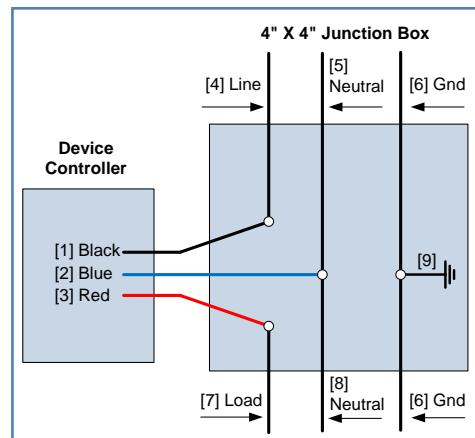

Figure 3 120-Volt Wiring Diagram
- c** Connect as shown in Figure 3. Numbers in brackets [] point to related locations in the wiring diagram.